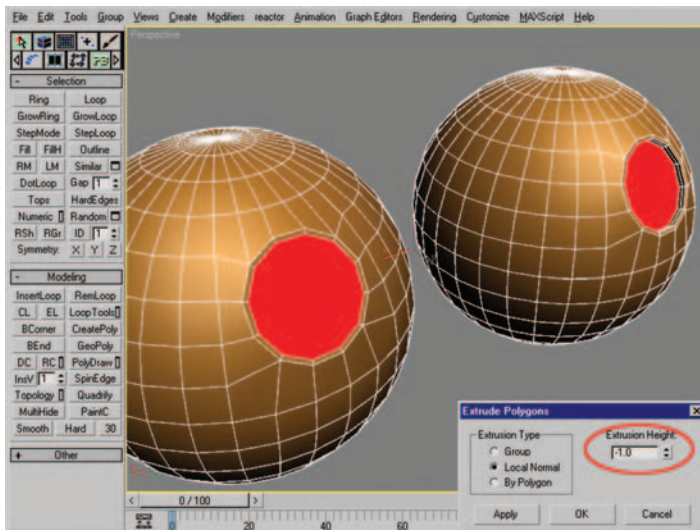

Figure 12.16 Polygon selection before and after using Extrude ($\times 2$).
18. With the same polygon selected (Figure 12.16, left), use the Extrude settings with an Extrude Amount of -1.0 and Local Normal checked. Before clicking the OK button, hit Apply to create a second extrusion with the same settings (Figure 12.16, right).